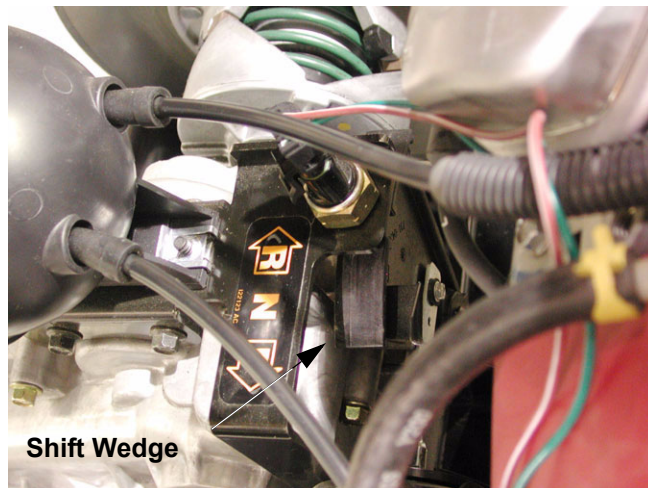

Figure 7.18
- 7.18. Remove the screw that connects the forward-neutral-reverse actuator to the shift wedge using a 1/4" wrench. disconnect the actuator from the shift wedge. See Figure 7.18.